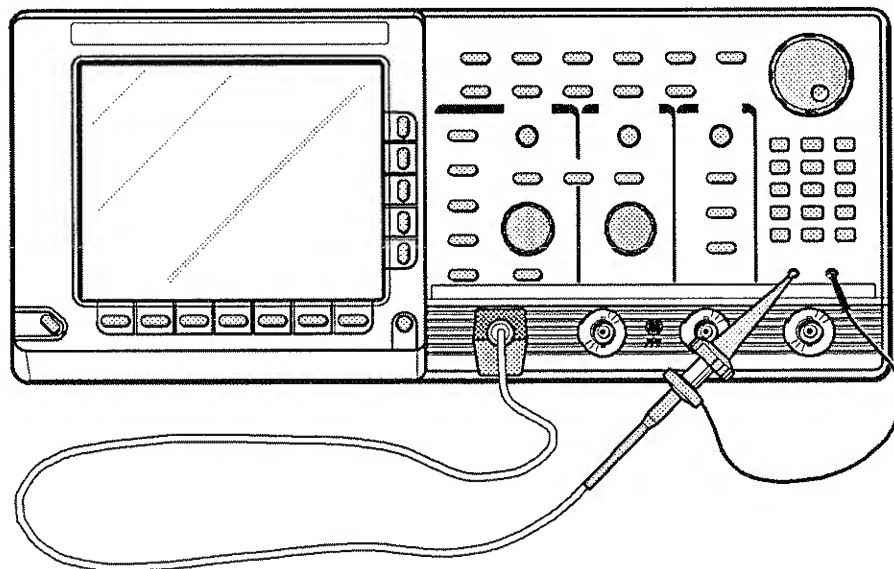

Figure 1-1: Connecting a Probe for the Examples
- ☐ **Step 1:** Remove all probes and signal inputs from the input BNC connectors along the lower right of the front panel. Then, use one of the probes supplied with the digitizing oscilloscope to connect from the **CH 1** connector to the **PROBE COMPENSATION** connectors. Figure 1-1 shows the proper connection of this probe.